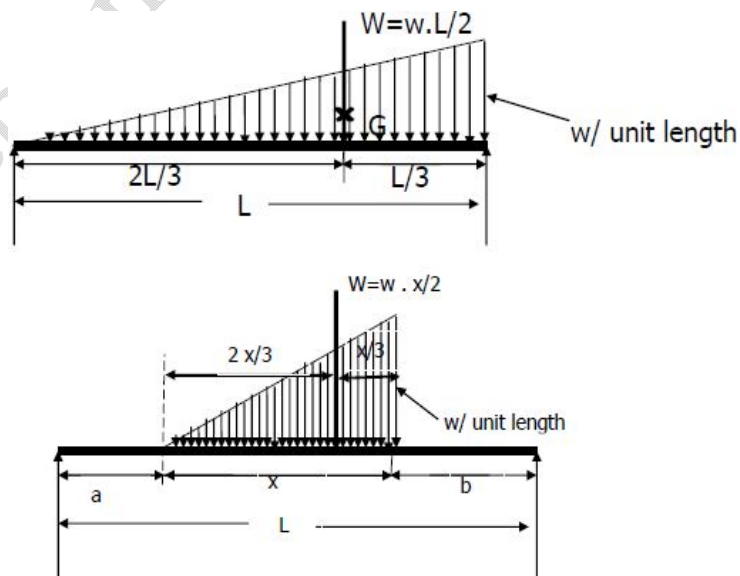

Fig 3.12 Uniformly Varying Load
3. **Uniformly varying load (UVL):** If a beam is loaded in such a manner, that the intensity of loading varies linearly or uniformly over each unit distance of the beam, then such a load is termed as UVL. In applying conditions of equilibrium, a given UVL should be replaced by an equivalent point load or total load acting through the centroid of the loading diagram (right angle triangle). The magnitude of the equivalent point load or total load is equal to the area of the loading diagram as shown in Fig 3.12.